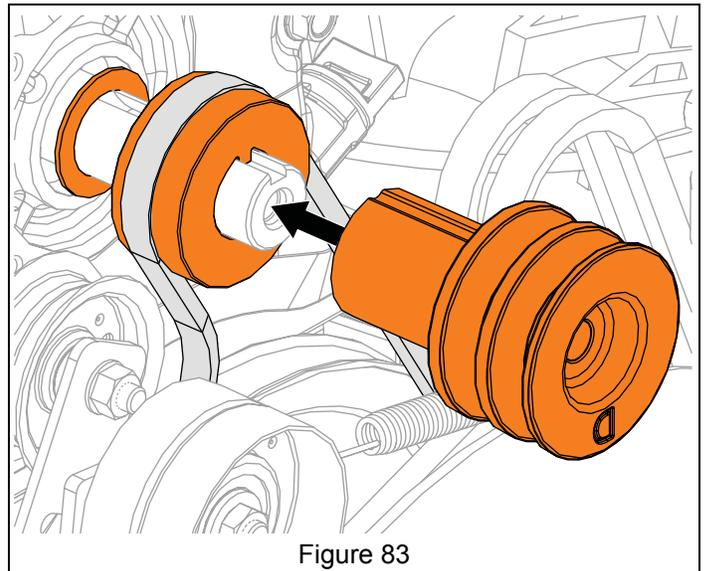

Figure 83
See Figure 83.
**IMPORTANT:** Traction drive sheave must be reinstalled in the orientation shown in Figure 83.